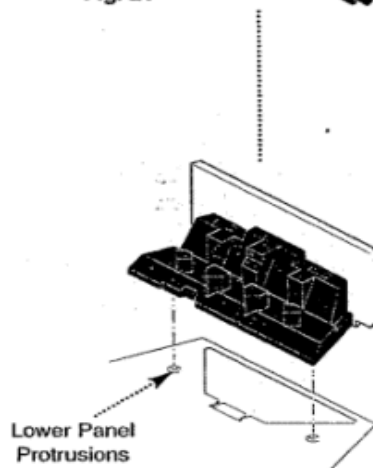

Fig. 22
2. Remove the cover from the 4 pin plug and undo the cable clamps (Fig. 22).
4. Position the coal underbed centrally in the combustion box locating the bed on to the two protrusions on the lower panel (Fig. 22).